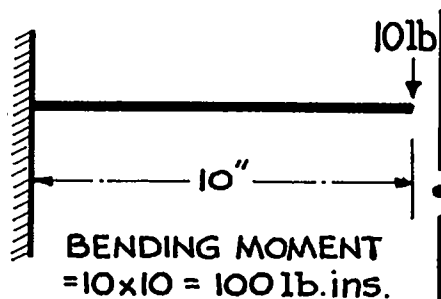

FIG. 1.
(1) Stress.—Is the force in a body when a weight or force is applied. This is designated *S* and is in lbs./per sq. inch.
(2) Breaking stress.—Is the force in the body at which the body breaks. It is designated *B.S.* and is in lbs./per sq. inch.
(3) Bending moment.—Is the moment of any section of a beam at which the applied forces tend to turn the portion of the beam on the right or left hand of the section (Fig. 1). It is designated *M* and is in lbs./ins.
(4) Modulus of section, is the name given to that quantity which divided into the bending moment, gives the stress. The letter *Z* usually represents the modulus of section.